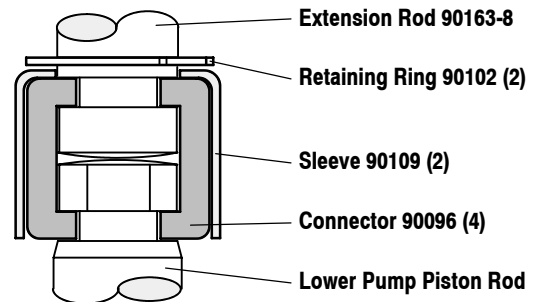

FIGURE 2
4. Using e - ring pliers, slide the retaining ring up far enough to allow the sleeve to move upward and release the two connectors (figure 2). Lay the air motor aside.